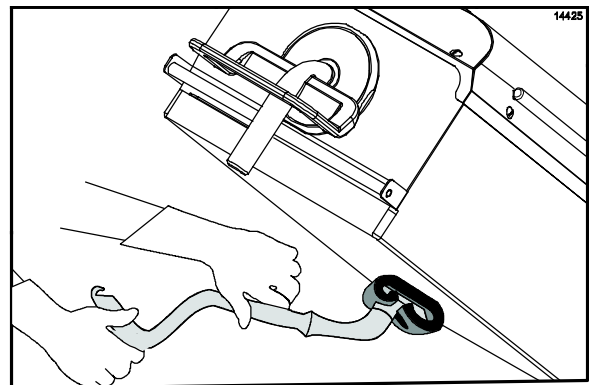

Figure 88
16. Apply the grill cleaner to the platen surfaces, starting from the right platen to the left platen. (See Figure 88.)